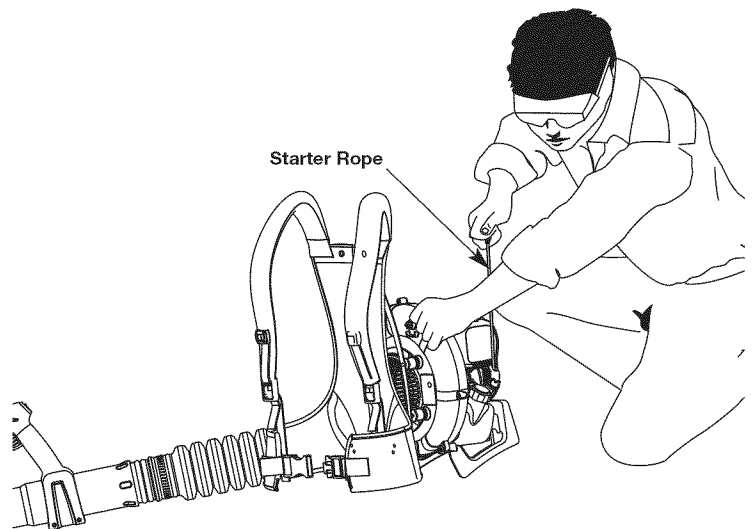

Fig. 16
**WARNING:** Avoid accidental starting. Make sure you are in the starting position when pulling the starter rope (Fig. 16). To avoid serious injury, the operator and unit must be in a stable position while starting. To avoid serious personal injury, make sure that the blower tube is locked in place or firmly installed.
5. Crouch in the starting position (Fig. 16). Pull the starter rope **5** times in a controlled motion.